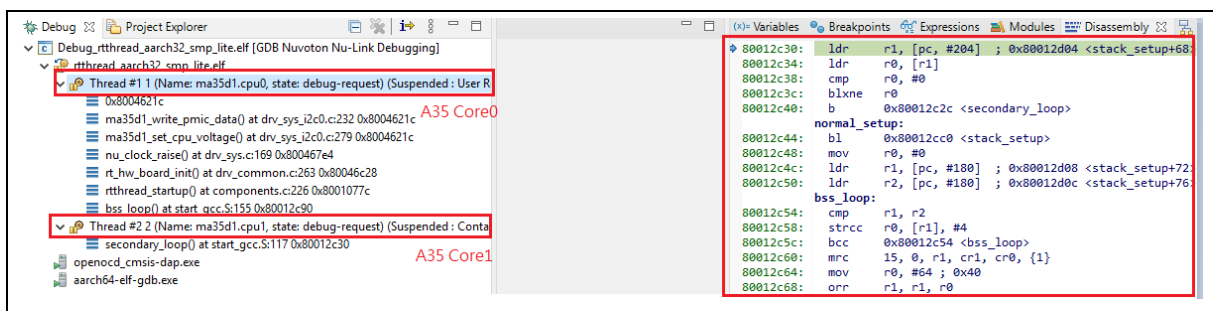

Figure 4-43 AARCH32 Program Debugging
12. Debug AARCH32 program (referring to Figure 4-43).